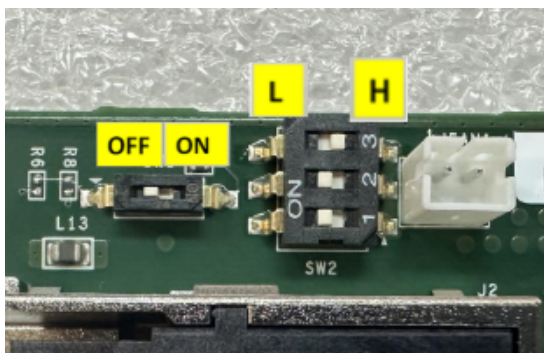

Figure 119. DIP switch configuration for C01 module (chassis side)
- See Figure 119 to confirm switch orientation